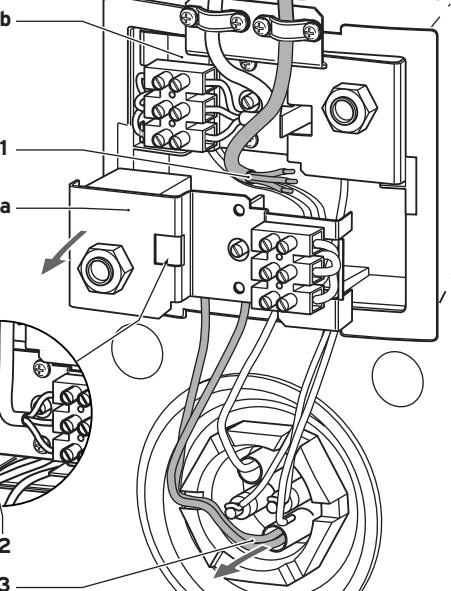

Fig. 5.4 Removing the cylinder control (Version A)
- Disconnect the wires (1) from the terminal block of the cylinder control (a).
**Version A, fig. 5.4:**
Unclip the cylinder control (a) and remove it from the terminal box (see 2, fig. 5.4).